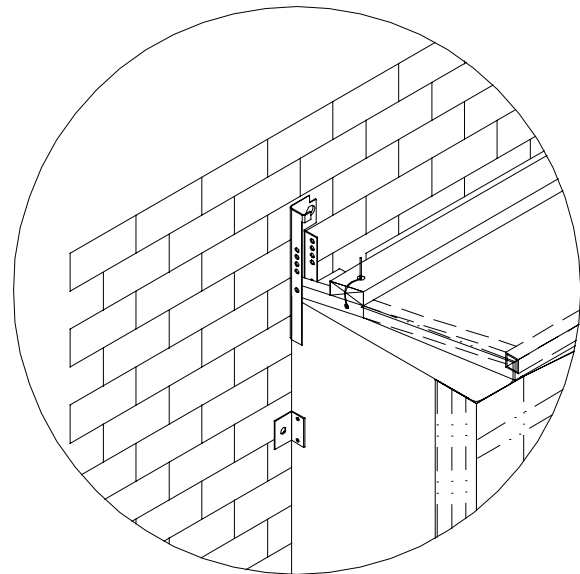

FIGURE 1
1. Lift the top curtain/bar assembly while still packaged together and locate across the already installed side frames. Position it on top so as the side arms on the top frame are facing the wall and land between the mounting brackets on side frames. (See Figure 1)